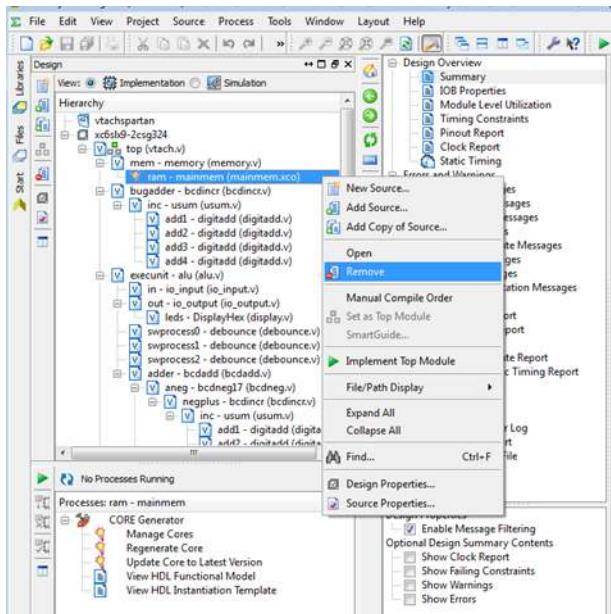

Figure 5-20 Remove `mainmem` module
1. Remove the existing `mainmem` module by right-clicking the module in the Design panel and then selecting Remove, as seen in Figure 5-20.